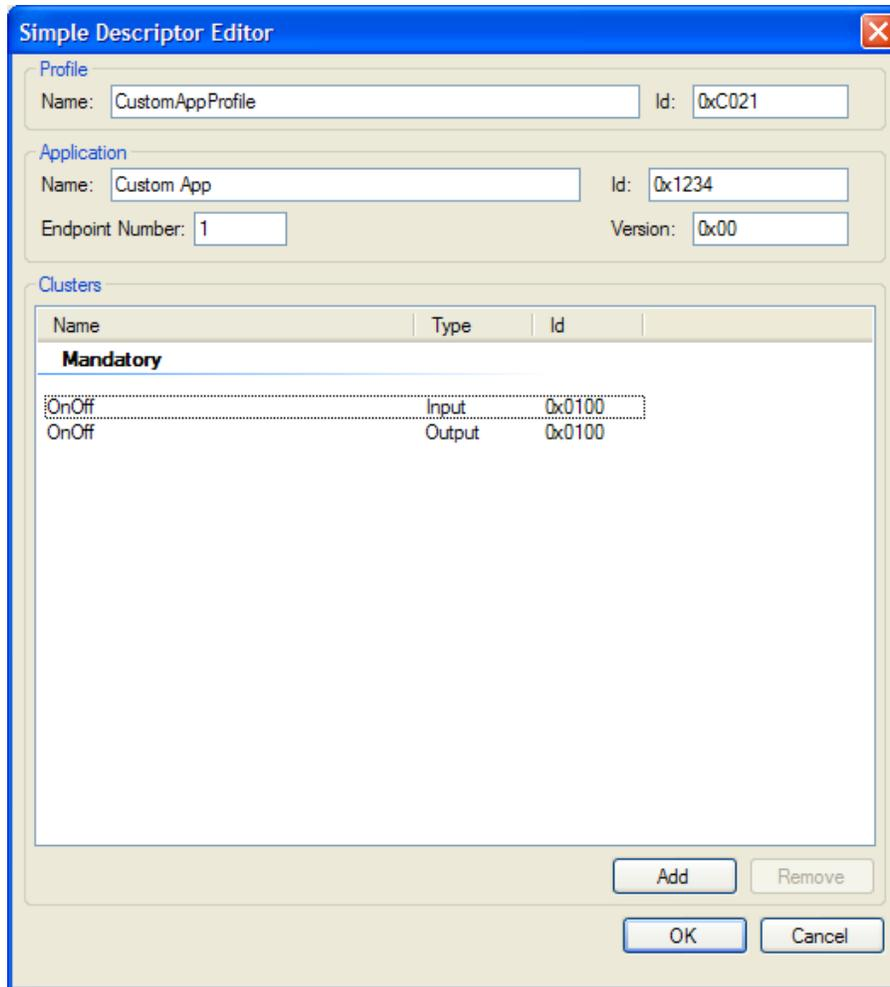

Figure 2-2. Custom Application Simple Descriptor
2. Modify the endpoint and simple descriptor to contain the information depicted in Figure 2-2 (endpoint number 1, profile 0xc021, application id 0x1234, an input and output OnOff cluster 0x0100).
After clicking this button, the Simple Descriptor Editor window appears as shown in Figure 2-2. Modify the endpoint’s simple descriptor to contain the same information as shown in Figure 2-2.